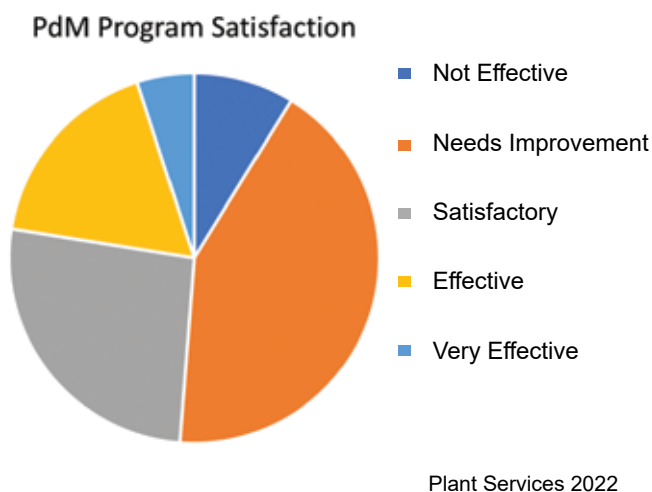

Figure 1. PdM Survey 2022
With technology and software advancements, Predictive Maintenance (PdM) programs have been greatly enhanced over the last two decades. Many Program Managers and Practitioners desire to push to the next generation of PdM, combining IIoT, Industry 4.0, Artificial Intelligence (AI), Predictive Analytics, and machine learning to their programs. However, with all this tremendous development in technology and added capabilities, most programs are still not achieving the desired results (See Figure 1). According to the annual PdM survey 2022 from Plant Services, 51% of programs are either not effective or needs improvement. Where another 26% is self-judged as just satisfactory.